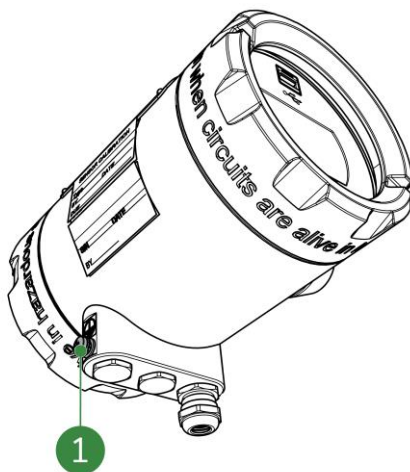

Figure 5-15: Protective earth connection
Connect a safety ground $\geq 4 \text{ mm}^2$ to the protective earth connection (Figure 5-15, pos. 1).